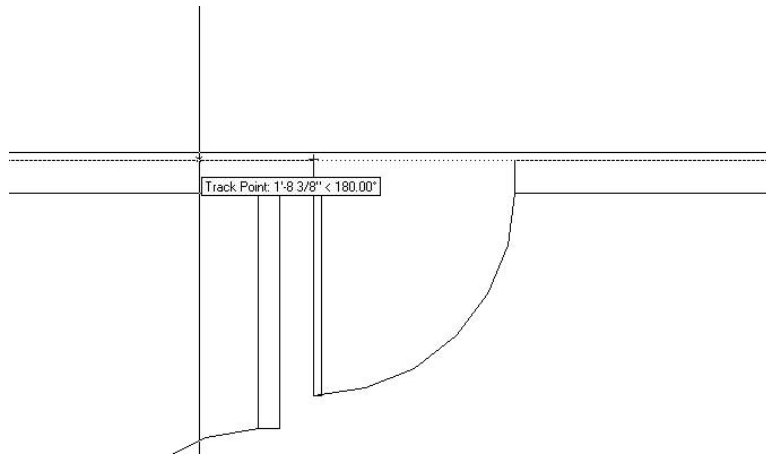

FIGURE 5.7: Using a temporary tracking point with Polar Tracking and Direct Entry
3. Hold the cursor to the left of the temporary tracking point. When the temporary alignment path appears with the tool tip, as shown in Figure 5.7, type `12↵`. A line begins 1' to the left of the opening on the outside wall line. Hold the crosshair cursor directly above the beginning of the line, and when you see the vertical alignment path with the tool tip, type `2'↵`. The side of the step is drawn using the Direct Entry technique with Polar Tracking. The Line command is still running.